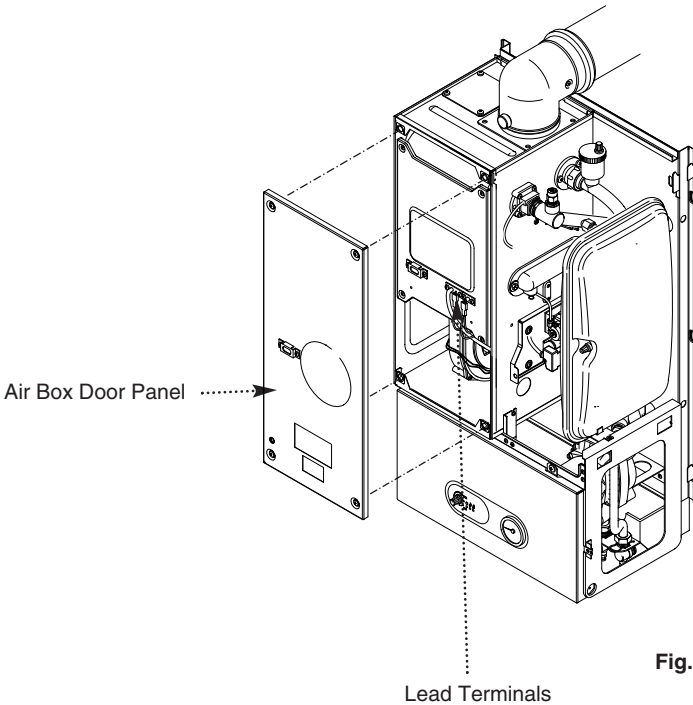

Fig. 39
6. Release the four 1/4 turn screws securing the air box door panel and remove the door (Fig. 39).
7. Disconnect the three lead terminals from the combustion box door taking note of their positions (Fig. 39).